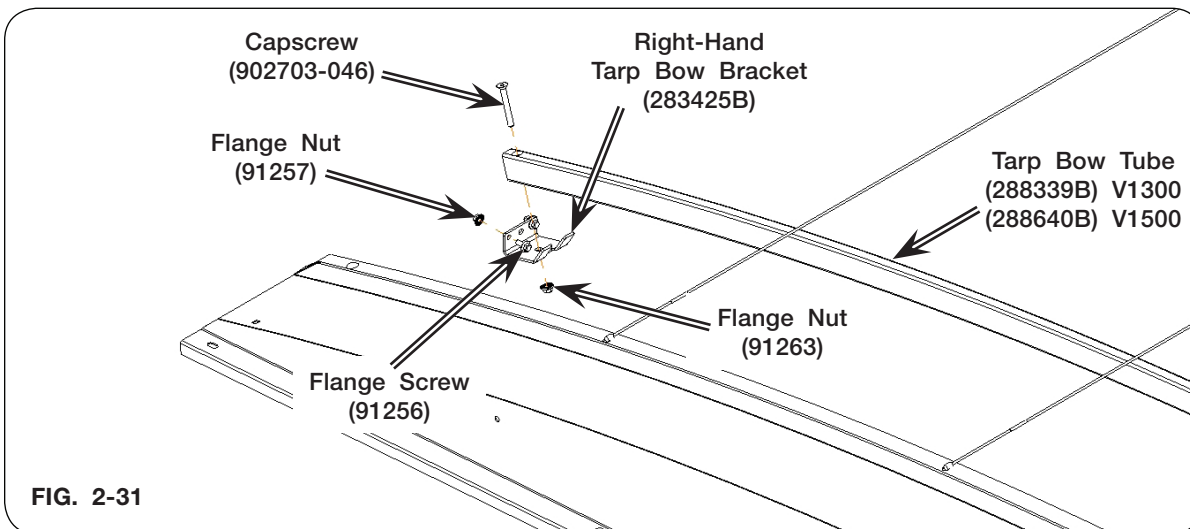

FIG. 2-31
2. Install eight long tarp bows (288339B for V1300; 288640B for V1500) across the top of the cart, using right-hand bracket (283425B), left-hand bracket (283427B), 3/8"-16UNC x 3" capscrew (902703-046), 3/8"-16UNC (91263) flange nut, 5/16"-18UNC x 3/4" flange screw (91256) and 5/16"-18UNC flange nut (91257). See Figure 2-31.